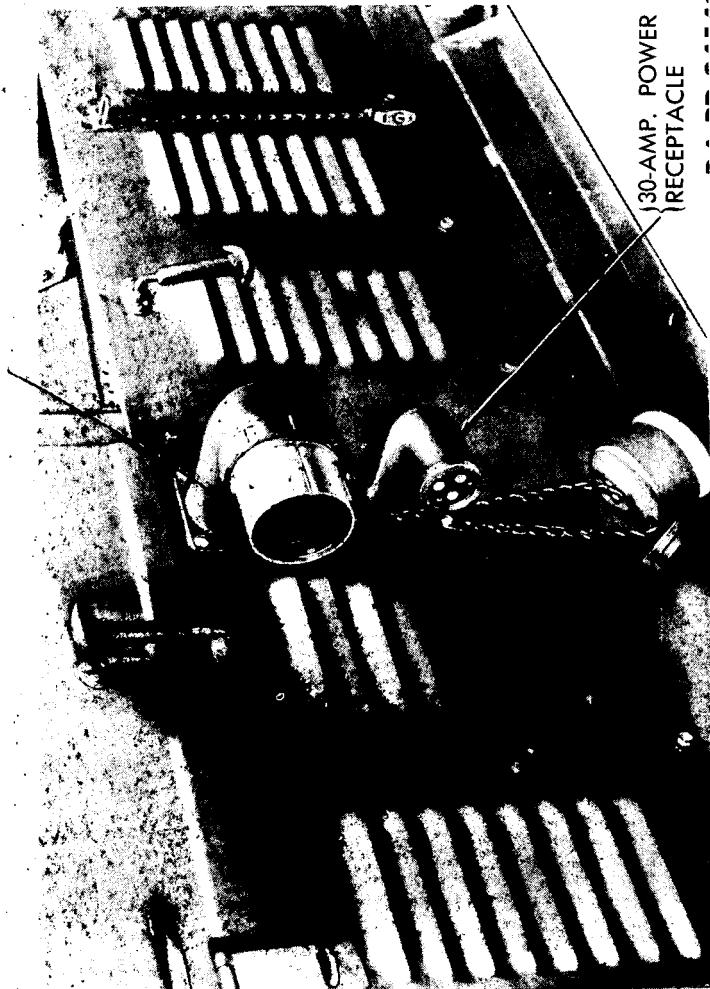

Figure 79—Power Receptacles
89. 200-AMPERE POWER RECEPTACLE (fig. 79).
90. 30-AMPERE POWER RECEPTACLE (fig. 79).